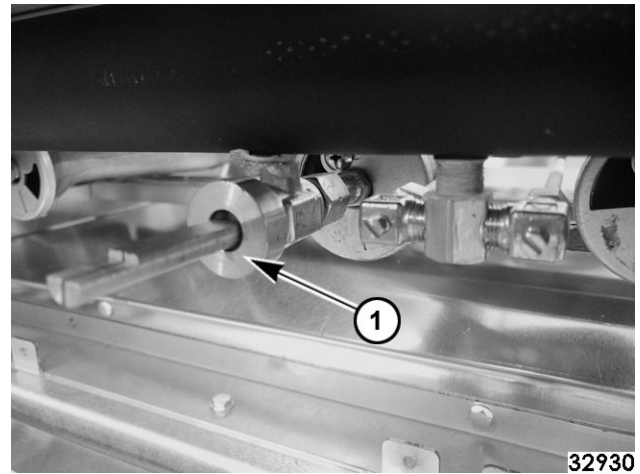

Fig. 82
4. Unscrew top burner control valve (1, Fig. 82) from gas manifold.